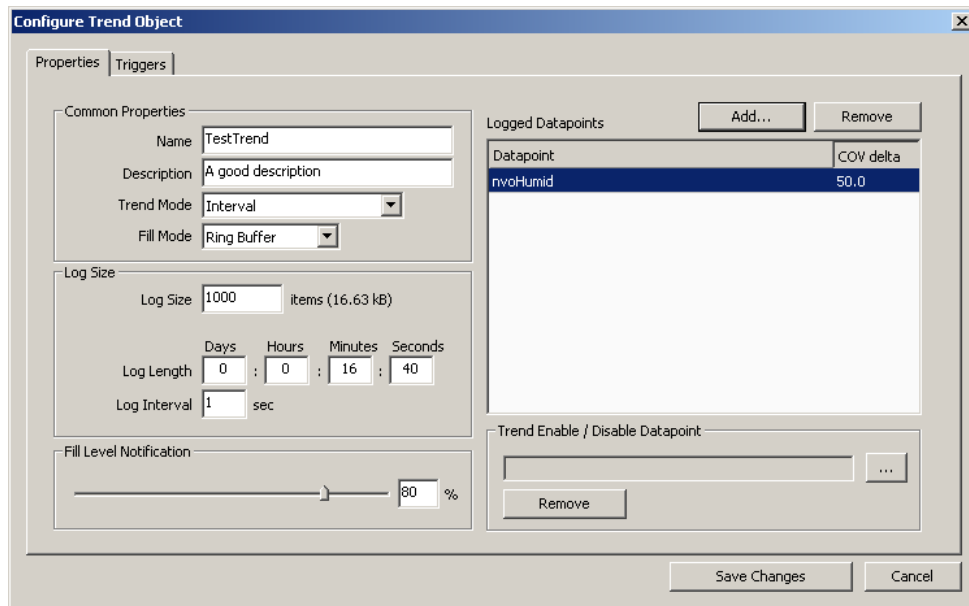

Figure 127: Basic Trend Object Configuration.
3. In the **Create New Trend Object** dialog (shown in Figure 127) enter a name and optionally a description for the trend log object.